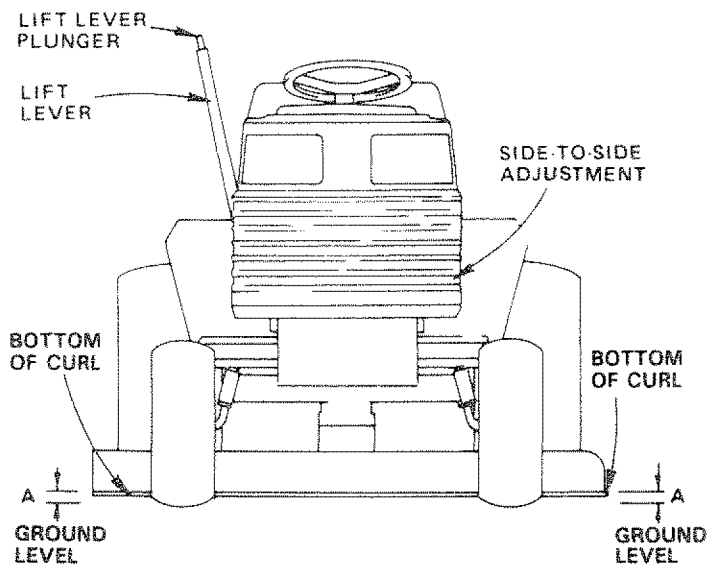

FIGURE 39
- Measure height from bottom of curl to ground level at front of mower. Distance "A" should be the same (Fig. 39).